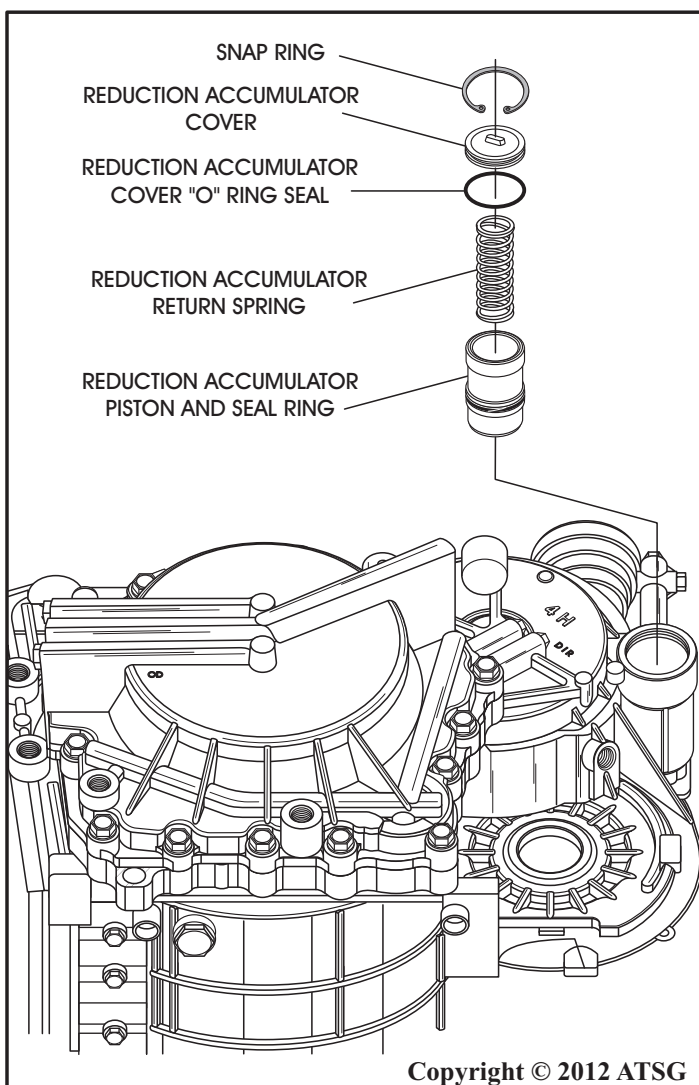

Figure 274
70. Install new scarf-cut seal on the reduction accumulator piston and install the assembly into case bore, seal down, as shown in Figure 274.
71. Install the reduction accumulator return spring into the piston, as shown in Figure 274.
72. Install new "O" ring seal onto the reduction accumulator cover and install the assembly into case bore, as shown in Figure 274.
73. Compress the cover against spring pressure and install the snap ring, as shown in Figure 274.